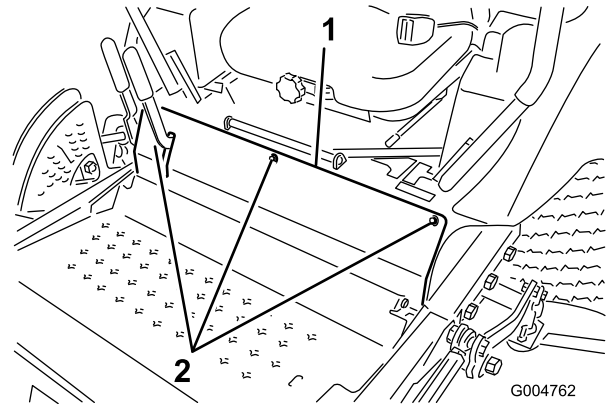

Figure 64
3. Remove the bolts securing the front panel and remove the panel (Figure 64).